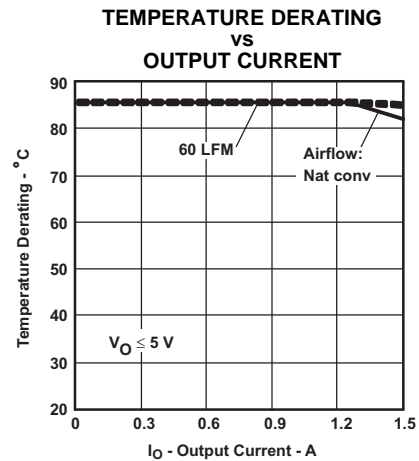

Figure 4.
- (2) The temperature derating curves represent the conditions at which internal components are at or below the manufacturer's maximum operating temperatures. Derating limits apply to modules soldered directly to a 100 mm x 100 mm double-sided PCB with 2 oz. copper. For surface mount packages, multiple vias (plated through holes) are required to add thermal paths around the power pins. Please refer to the mechanical specification for more information. Applies to Figure 4.